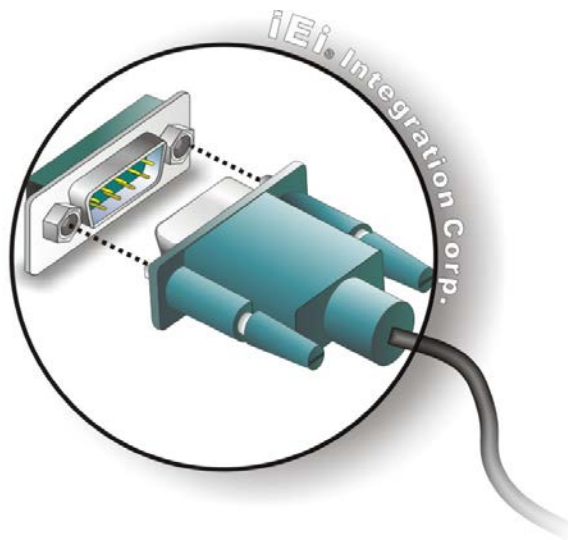

Figure 3-20: Serial Device Connector
Step 2: Insert the serial connector. Insert the DB-9 connector of a serial device into the DB-9 connector on the external peripheral interface. See Figure 3-20.